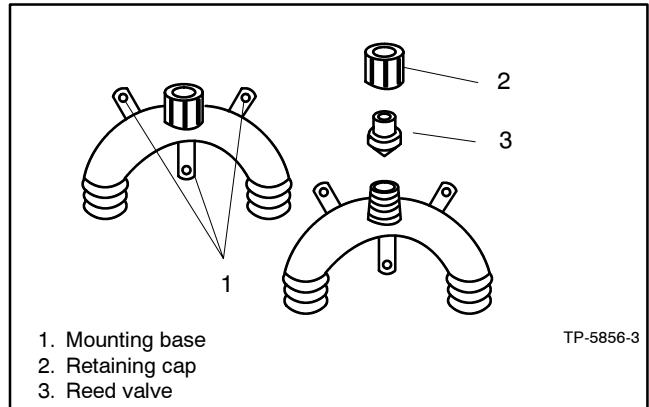

Figure 3-8 Siphon Break
2. Remove the retaining cap and remove the reed valve for inspection. See Figure 3-8.
6. Install the reed valve into the mounting base with the valve downward. See Figure 3-8, item 3.